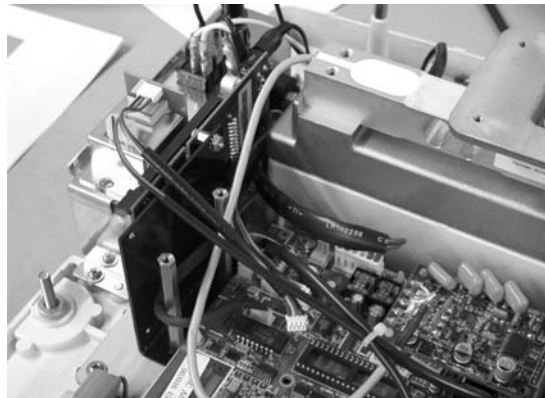

Figure 4. RF Circuit Board and L-Bracket Installed
14. Place L-bracket with circuit board in position and mount using (2) 7mm standoffs from the parts kit (see Figure 4)